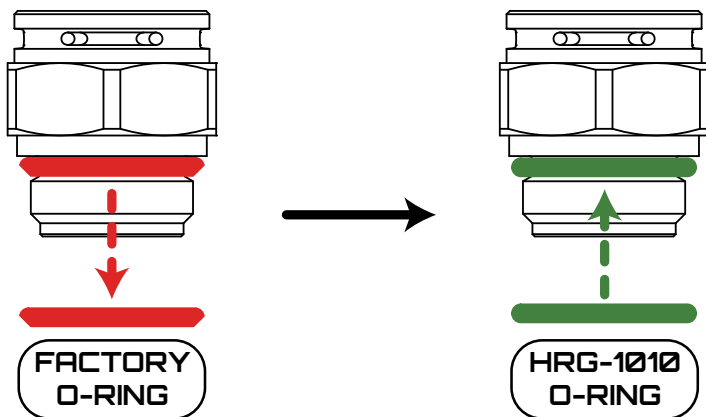

Figure 3 - Installing the HRG-1010 Replacement O-Ring on Factory Fitting
12. Remove the used O-ring on the factory fitting and replace it with the new HRG-1010 O-ring from the hardware kit, as shown in Figure 3.